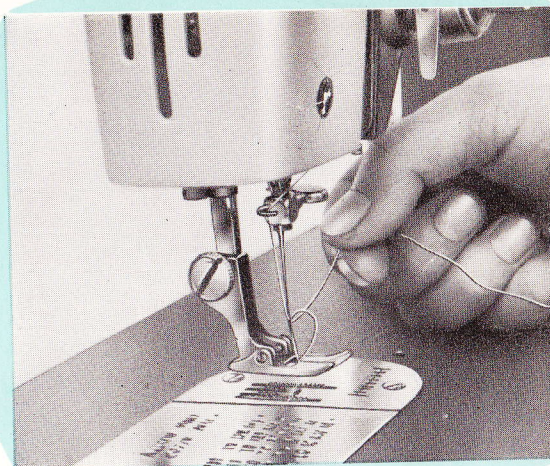

Fig. 12
3. Pull the thread you are holding and lower thread will be brought up with it through the hole in the needle-plate, as shown (Fig. 12).